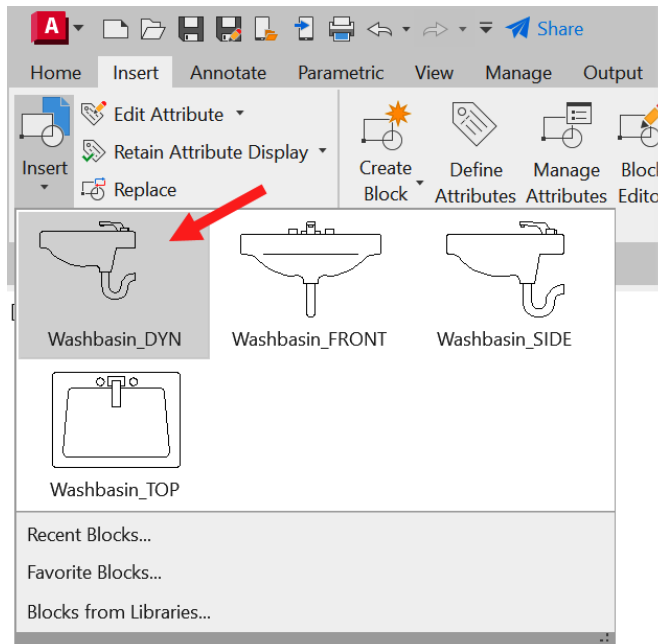

Figure 12.35: The Washbasin\_DYN dynamic block on the Insert dropdown
3. Click on the **Insert** tab on the ribbon, then click on the **Insert** dropdown at the left-hand end. *Figure 12.35* shows the **Washbasin\_DYN** block shown in the dropdown.